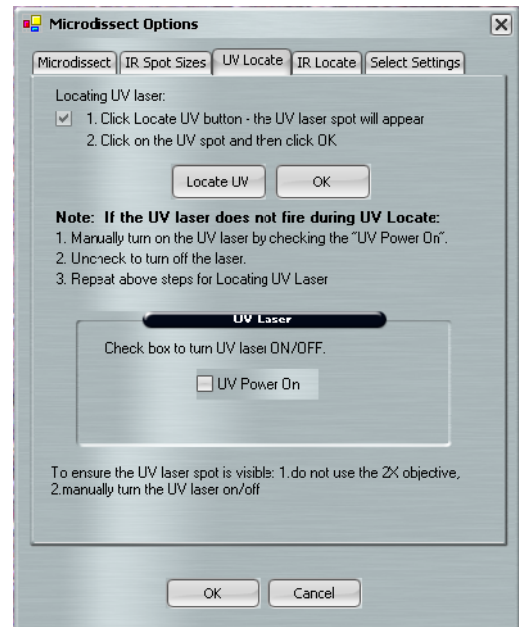

Figure 52 UV Locate tab.
2. Click the **UV Locate** tab (see Figure 52).